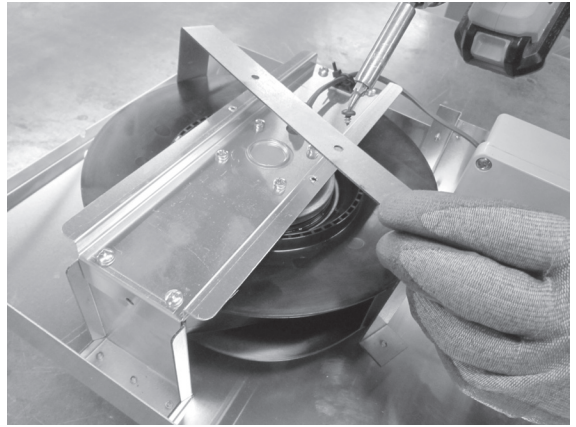

Figure 2.6
2. Remove the shipping bracket. See Figure 2.6.